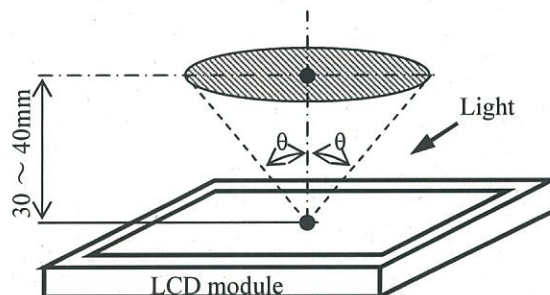

Fig. 8.1 Inspection view
(1) Viewing zone
- a) Fig.8.1 shows the correspondence between eyes (of inspector) and LCD module.